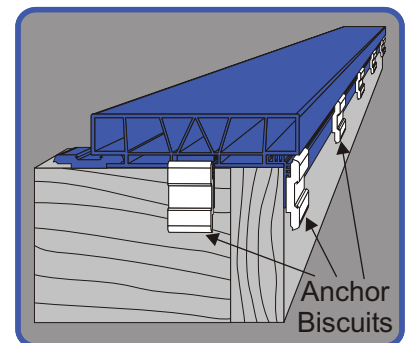

Figure 7
**Step 6.** Use anchor biscuits to secure end clamp strips and end clamp pieces to rim joists. Drive a 1½" deck screw through the slot in the anchor biscuit and through the end clamp into the rim joist. Use one anchor biscuit every 16" along the end clamp strips, and one anchor biscuit for every 1" end clamp piece along the end (see Figure 7).